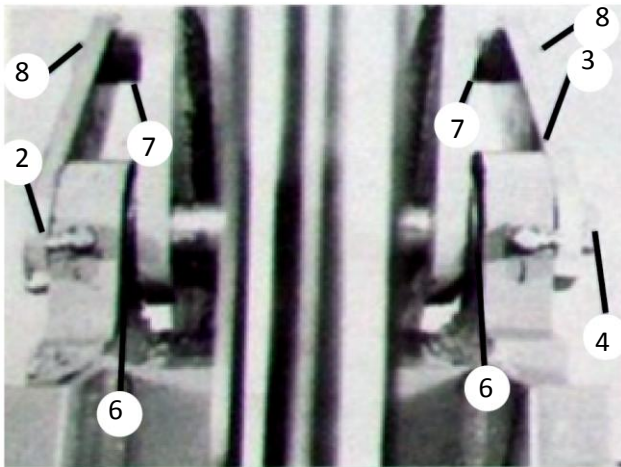

Fig. 2
(1) Remove the locking pin (Item 2) from the dipper arm (Item 1). Using overhead hoist, raise the main boom until the dipper arm can be placed between the swivel lugs on the top end of the boom as shown in Fig. 2. Place two each spacers (Item 6, one on each side of the dipper) between the dipper and the boom. Insert the locking pin (Item 2) through the boom swivel lugs, spacers and dipper arm. Secure the locking pin in place by using the locking pin plate (Item 3), 1/2" x 1 1/2" bolt (Item 4) and a 1/2" lockwasher (Item 5). Insert a 1/2" I.D. x 1" O.D. x 1 1/4" spacer (Item 7) between the arm on the locking pin and the dipper arm, securing with a 1/2" x 2 1/4" bolt (Item 8) and 1/2" lockwasher (Item 5). Using the other 1/2" I.D. x 1" O.D. x 1 1/4" spacer (Item 7), insert between the dipper arm and the locking pin plate securing with a 1/2" x 2 1/4" bolt and 1/2" lockwasher.